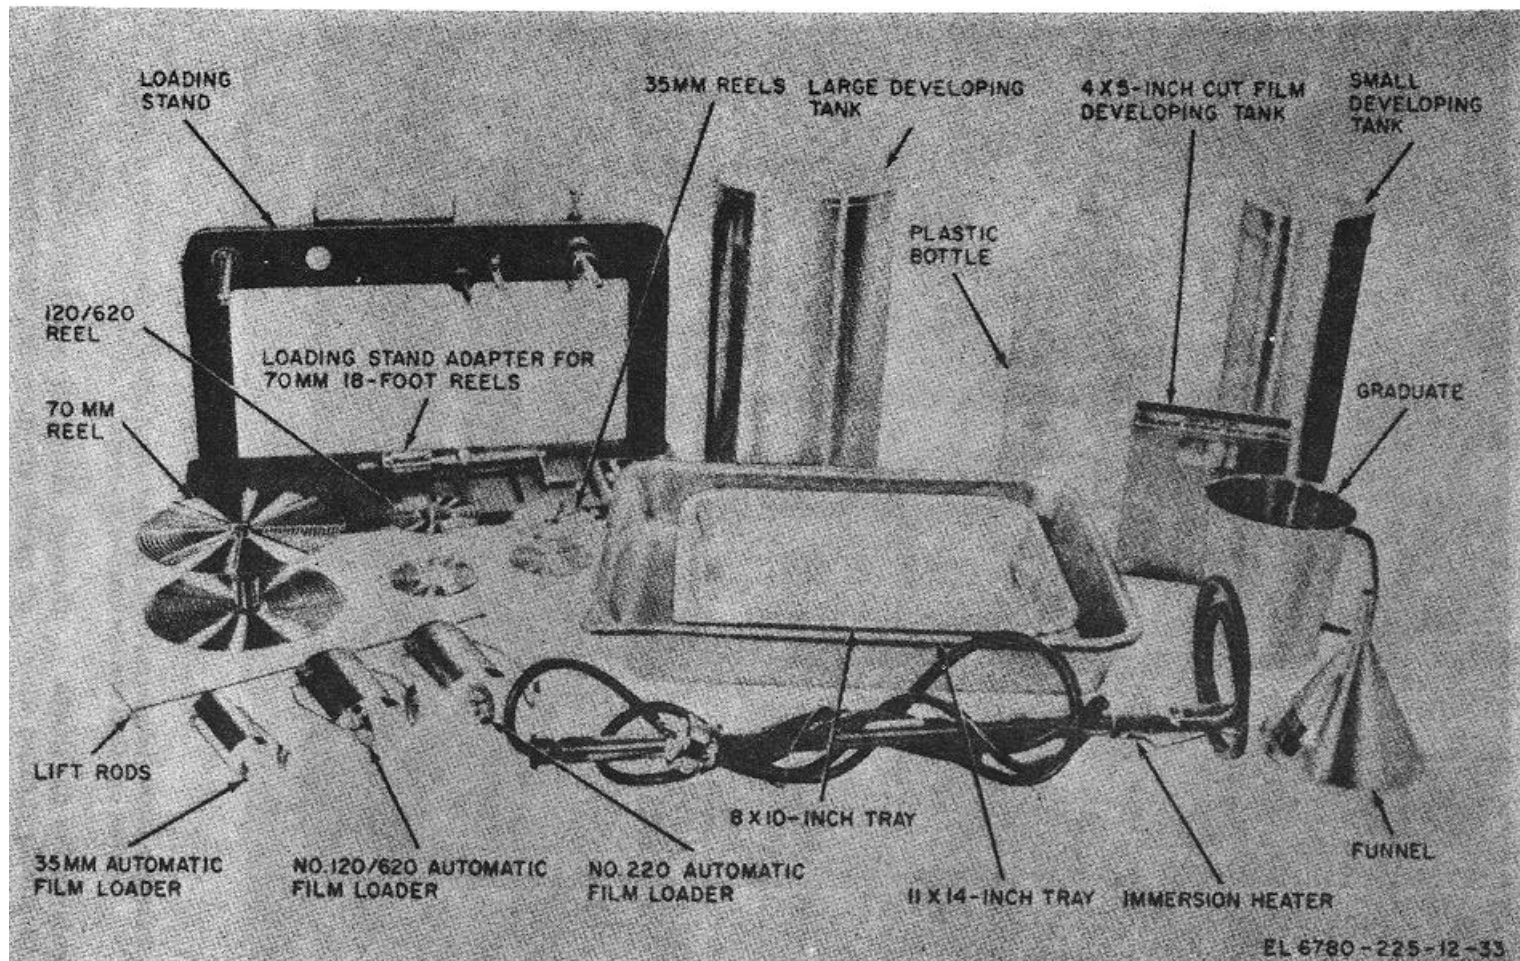

Figure 1-12. Sink stowage.
*d. Film Processing Equipment.* Film processing equipment supplied with the darkroom is given below and in figure 1-12.
*k. Immersion Heater.* The immersion heater (fig. 1-12) is a plug-in unit and is used as an auxiliary water heater for mixing chemicals, and to melt snow in the sink to supply water to the water storage tank.
- l.* Remove the equipment stowed in the sink (fig. 1-12).
a. *Checking Equipment for Completeness.* Check to see that the darkroom is complete (figs. 5-1 and 5-2) and check the equipment against the basic issue items list (app. B). Report all discrepancies (para 1-4). Check the contents of storage drawers 1 through 8 against figures 1-2 through 1-8. Check the contents of the sink against figure 1-12.